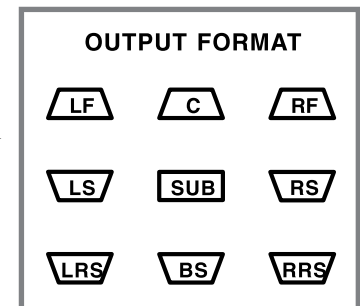

Figure 57
- K. The OUTPUT FORMAT LEDs indicate the SURROUND MODE selected and the active audio channels. Refer to figure 57.